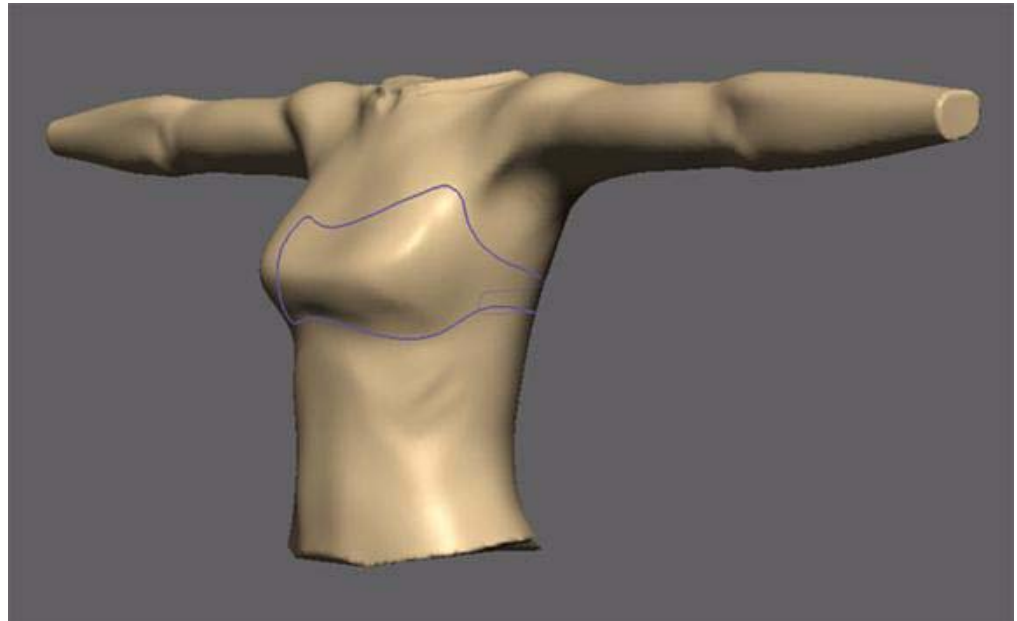

FIGURE 2-12. A curve is drawn to outline the bodice of the chest armor
- 2 Draw a closed curve on surface using the Draw Curve tool that outlines the shape of the bodice. Use Figure 2-12 as a guide. The Draw Curve tool is similar to Maya's curve on surface tool.